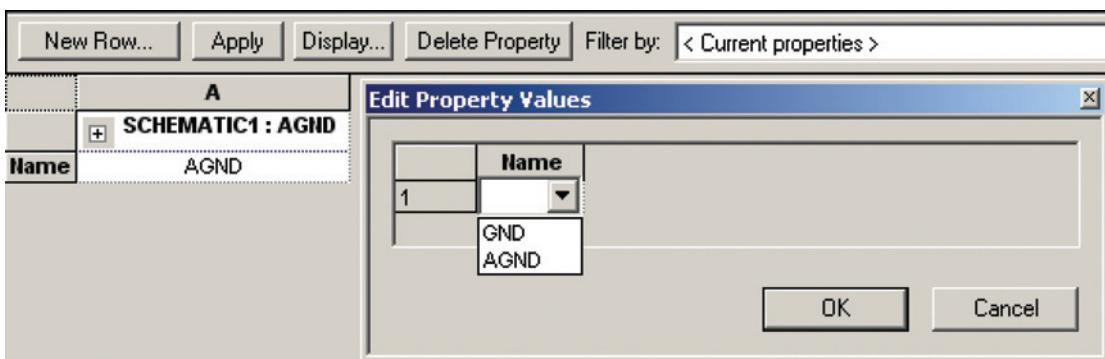

Figure 9-62 Select ground net name (analog or digital).
**To select the name of a global net** double click the net (or select the net and right click and select **Properties**), to display the **Schematic Net Properties** spreadsheet (Fig. 9-62), select the **Name** row, right-click, and select **Edit** to display the **Edit Property Values** dialog box. Use the dropdown selection list to choose which name the net should go by. Click **OK** and then close the spreadsheet.
It appears on the schematic that the analog and digital grounds are separate ground systems and that they are connected only at J1. As far as Capture is concerned, they are actually one and the same net—the name of which was decided in the dropdown list in Fig. 9-62. Once we get to Layout we will separate the ground systems using a split plane.
The next step is to assign the ground and power nets to their layers. Use the Nets spreadsheet (from the View Spreadsheet button). Beginning with the GND net (or AGND, whichever you named it—see Fig. 9-62), double click the cell to display the Edit Net dialog box, and then click the Net Layers... button to display the Layers Enabled for Routing dialog box shown in Fig. 9-66(a). Since there really is only one ground net it gets assigned to the GND plane. Below we will see how to split the plane into analog and digital areas.